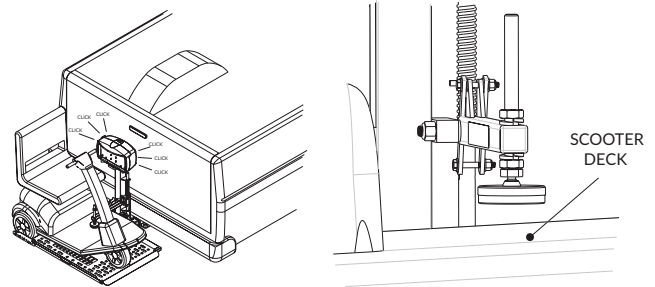

Figure 6-2
2. Raise the platform until you hear the motor clutch, which indicates the top of travel. The hold-down foot should be above the scooter's deck. *See Figure 6-2.*